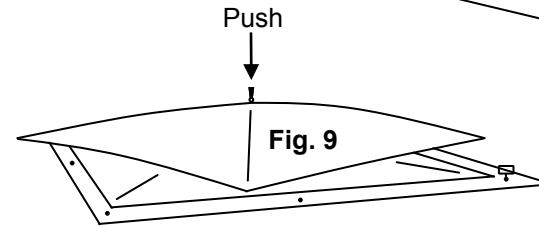

Fig. 9
3) Push top hub down. (Fig. 9)